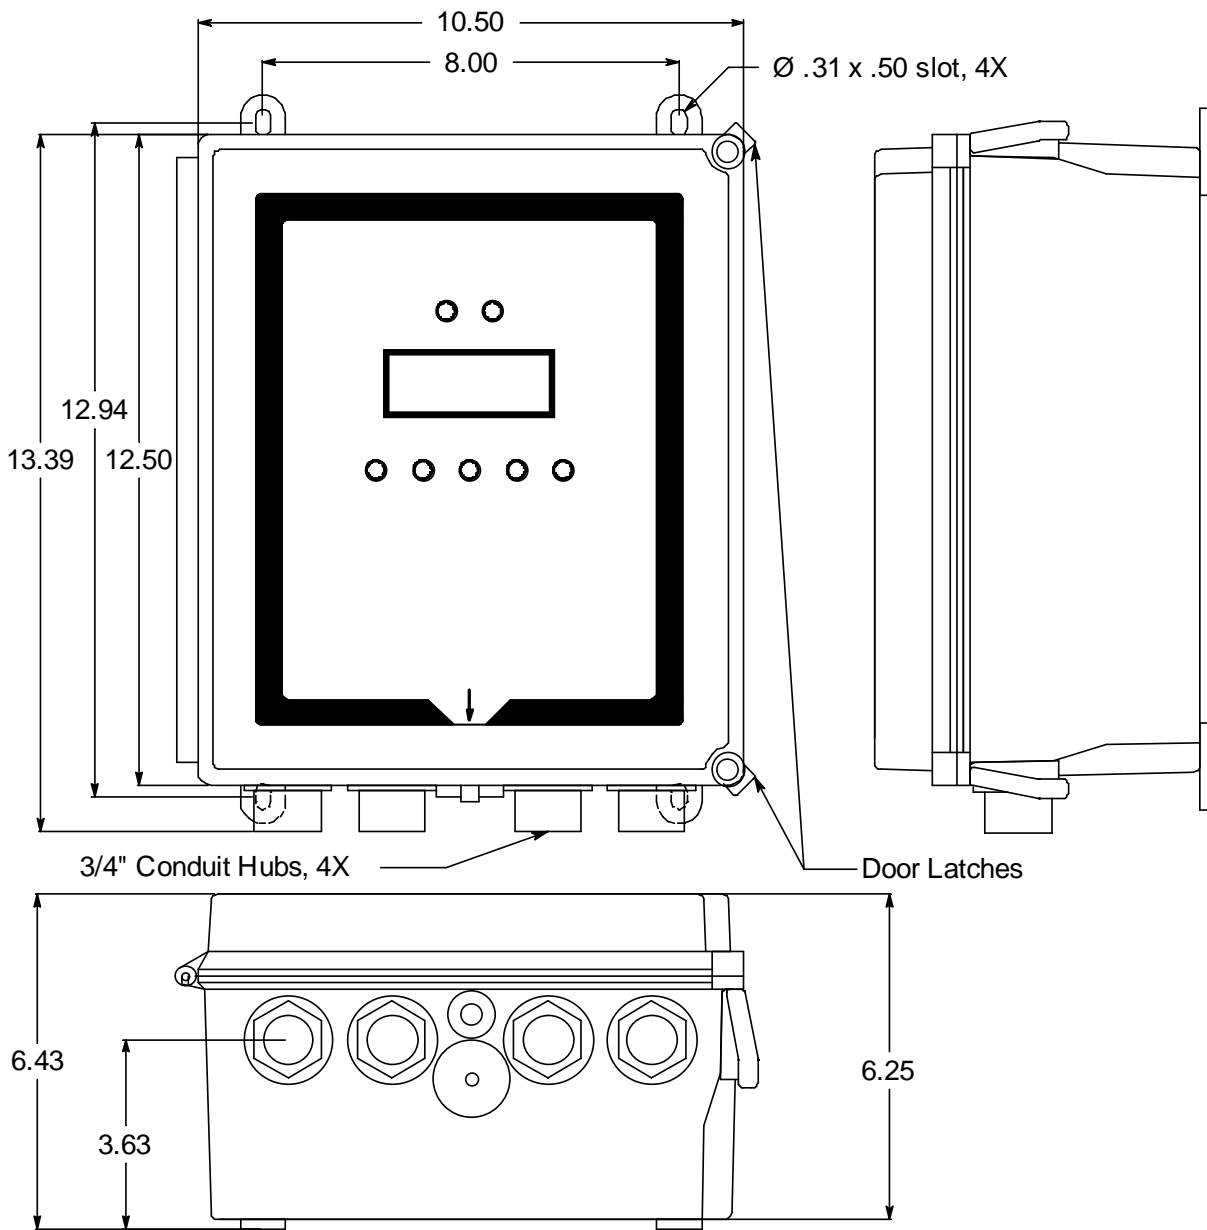

Figure 9: Beacon 410A Gas Monitor Outline and Mounting Dimensions
The Beacon 410A can be ordered with an alarm strobe light installed on the top of the housing. The Beacon 410A retains its NEMA 4X rating with the strobe installed. Strobe operation can be programmed in Configuration Mode (see “Chapter 6: Configuration Menu” on page 42). The outline and mounting dimensions with the alarm strobe are the same as the standard Beacon 410A with the exception of the height. The difference is shown below. See Figure 9 for all outline and mounting dimensions.
3. The Beacon 410A is shipped with the mounting feet positioned under the housing. Loosen the screws that secure the feet to the housing, rotate the feet to their mounting position as shown in Figure 9, then tighten the screws.
4. Prepare the selected mounting site as required to mount the Beacon 410A. It should be mounted at eye level (4 1/2 to 5 feet from the floor). Refer to Figure 9 for the outline and mounting dimensions.